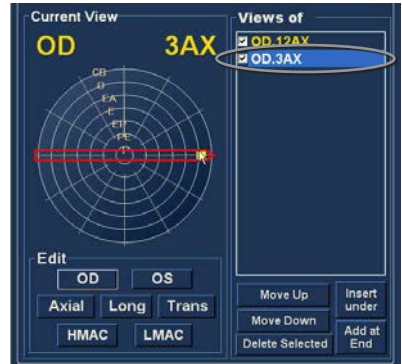

Figure 4.23 - Change Probe Orientation
- When you arrive at the appropriate position for the probe in the newly added sequence scan release the position indicator. The new position will be reflected in the label for the new sequence scan as shown in Figure 4.23. The indicator stopped at 3:00 AX and the label for the scan was changed from OD.Scan to OD